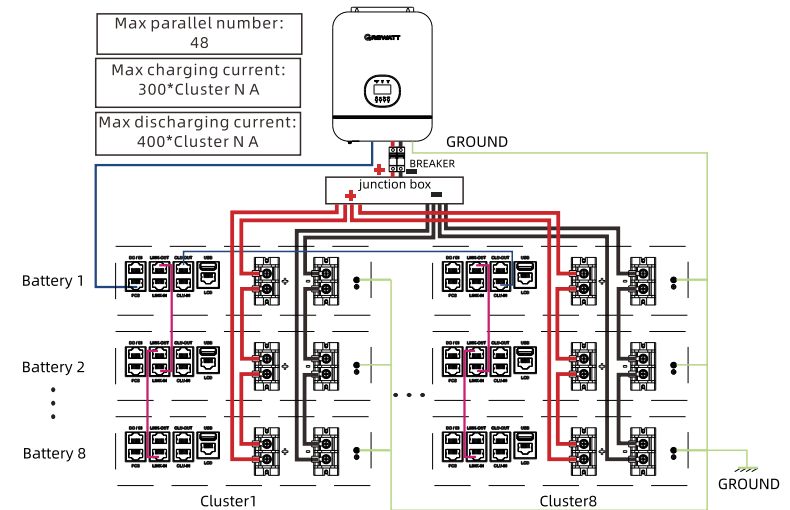

Figure 16: Installation Diagram for Capacity Expansion
- 2) Refer to Figure 16 for power cable wiring.